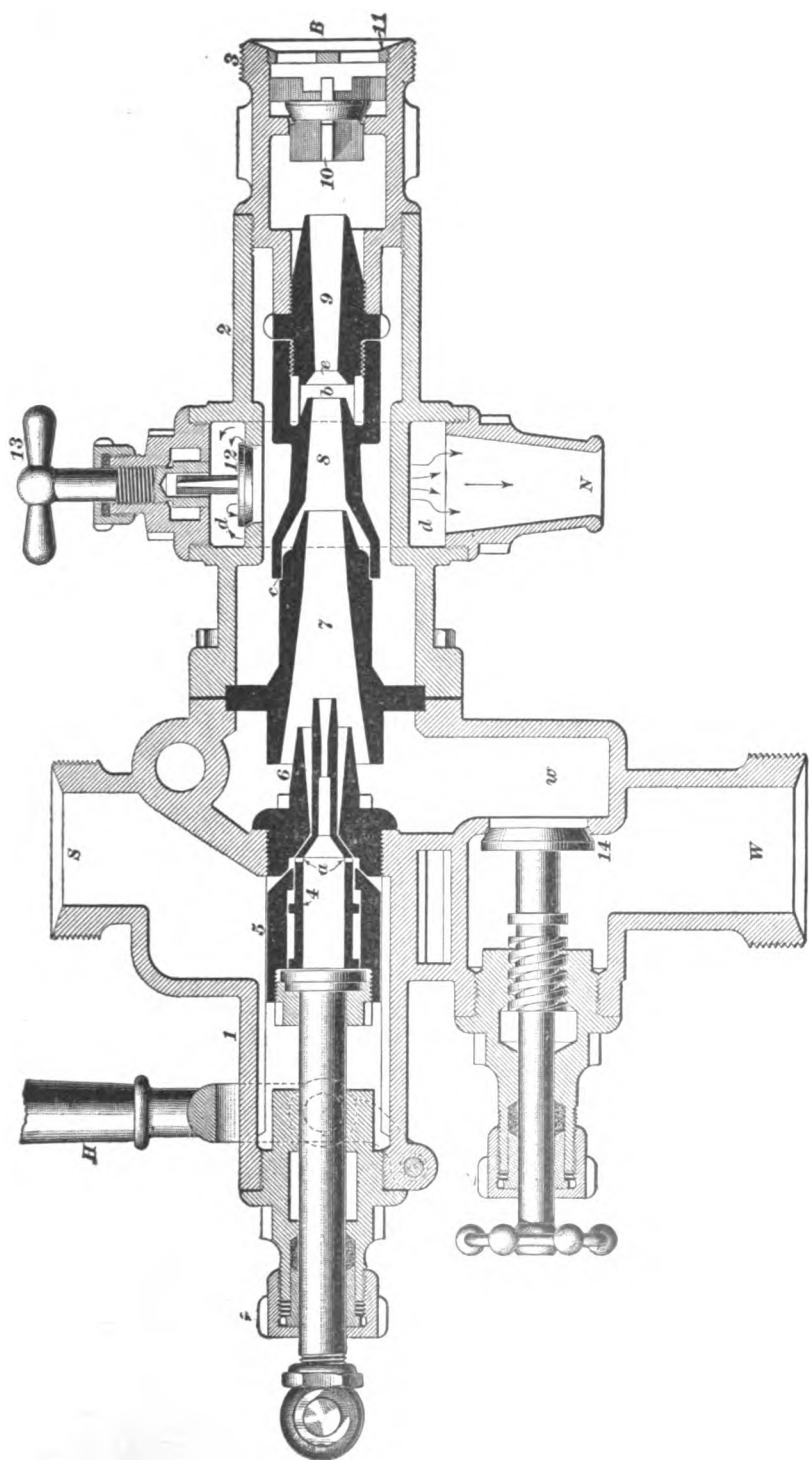

FIG. 10
**25. Description.**—The *Ohio* injector is shown in cross-section in Fig. 10, in which 1 is the back part, and 2 the front part, of the body of the injector; 3, the delivery-end connection; 4, the primer; 5, the steam valve; 6, the steam nozzle; 7, the lifting tube; 8, the combining tube; 9, the delivery tube; 10, the line check-valve; 11, the stop-ring for limiting the travel of the check-valve; 12, the overflow valve; 13, the overflow-valve handle; 14, the water valve; and *N*, the overflow nozzle. The steam pipe to the injector is connected at *S*, the water-supply pipe at *W*, and the pipe that delivers the water to the boiler at *B*. The overflow chamber *d* is connected with the overflow nozzle *N* by a passageway in the body of the injector, as shown dotted. A waste pipe with a funnel on the end is brought up under the nozzle *N*, and carries away the waste water from the overflow.